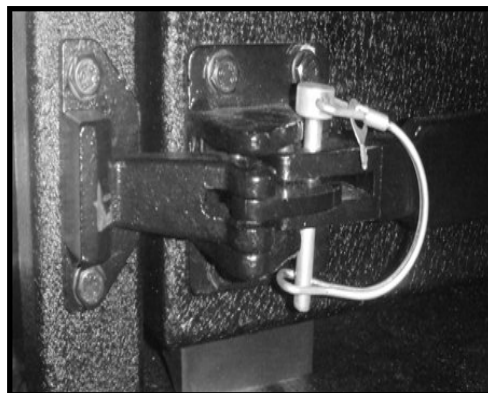

Figure 27.
19. Close and latch the tire carrier. Insert and close lock pin (Figure 27).